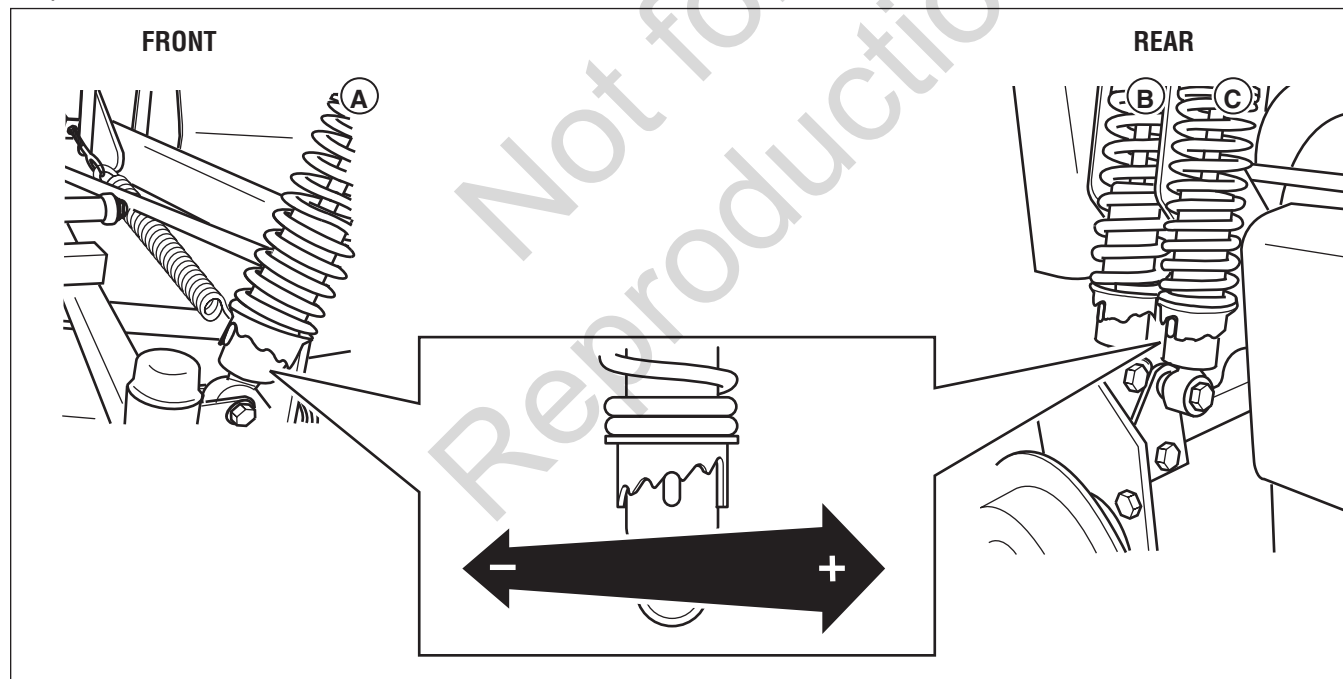

Figure 38. Adjust Spring Pre-Load
2. See Figure 38. Using the supplied spanner wrench (p/n 5022853), insert the tip of the wrench into the notch in the pre-load adjuster. While holding the wrench with both hands, turn CLOCKWISE to decrease the pre-load, turn COUNTER-CLOCKWISE to increase the pre-load. Make sure that for each pair of shocks (A, B or C, Figure 38) that the left-hand and right-hand are set to the same amount of pre-load.